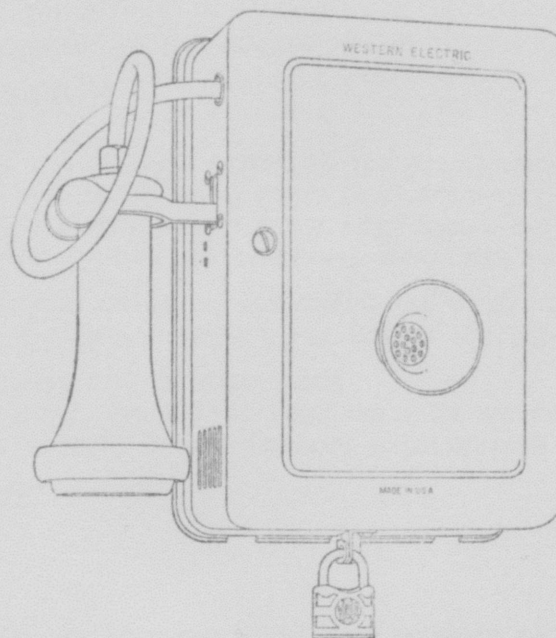

Fig. 1—Exterior View of No. 629A Subscriber Set.
2.02 The apparatus used in the No. 629A subscriber set is listed in Table 1 below and the arrangement of the apparatus in the set is shown in Figs. 1 and 2.